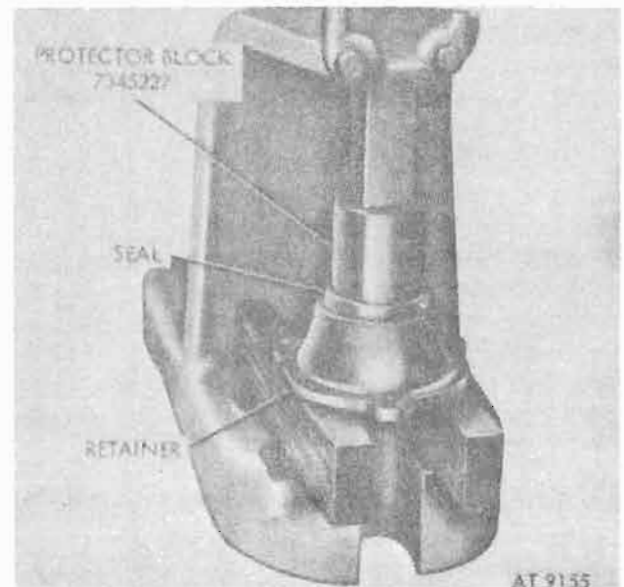

Figure 8-22. Install output shaft seal.
a. Coat outside surface of output shaft seal with sealer and press seal into bearing retainer using arbor press and protector block (7345227) (fig. 8-22).